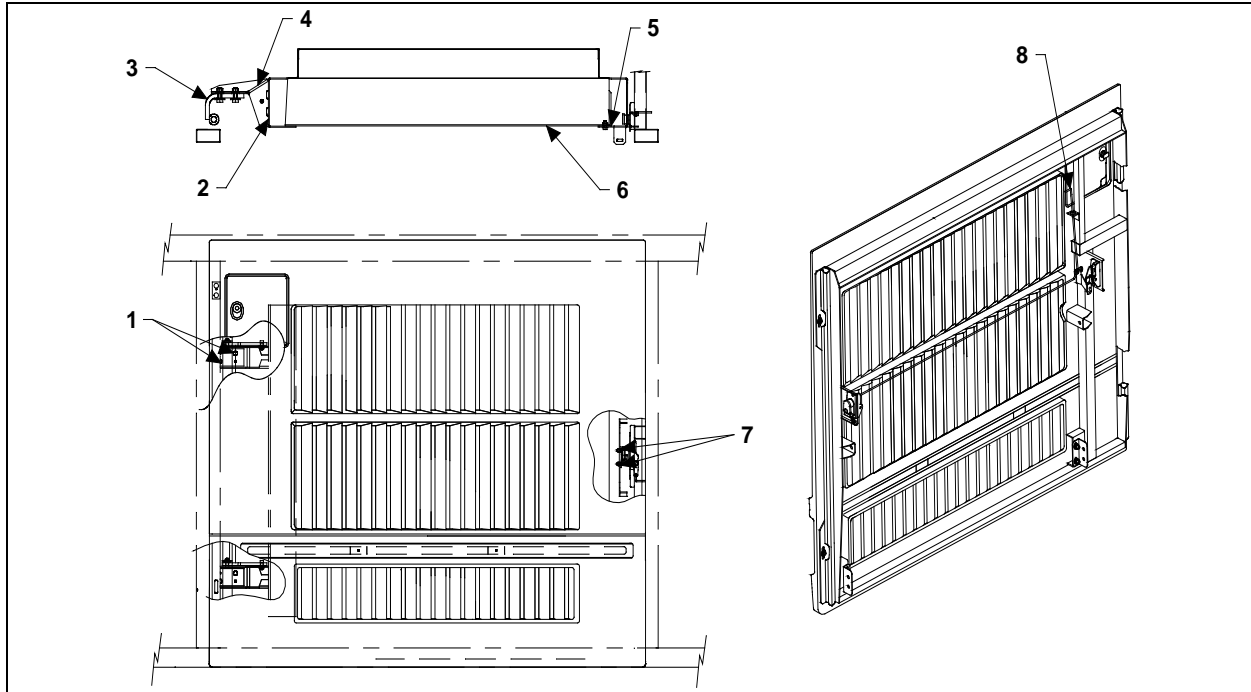

FIGURE 78: CONDENSER DOOR
2. Loosen the nuts (1, Figure 78) holding the hinge (3, Figure 78) to hinge attachment (4, Figure 78). Loosening nuts (1, Figure 78) allows the condenser assembly to be shifted "LEFT or RIGHT" and "UP or DOWN".
5. Loosen bracket nuts holding the panel to condenser. Panel (6, Figure 78) may be shifted "IN or OUT", "LEFT or RIGHT" and "UP or DOWN".
6. Adjust condenser panel at brackets (2, Figure 78) and (5, Figure 78).